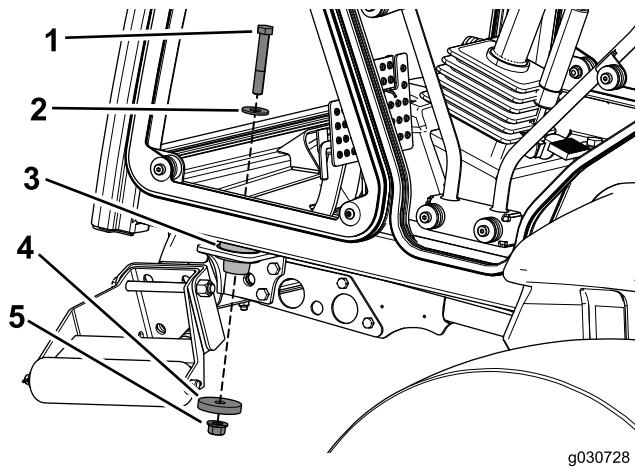

Figure 28
6. Use a bolt (1/2 x 3-1/4 inch), washer (1-3/8 inches), washer (2-1/4 inches), and locknut (1/2 inch) to secure the cab to the front mounts on the machine (Figure 28).